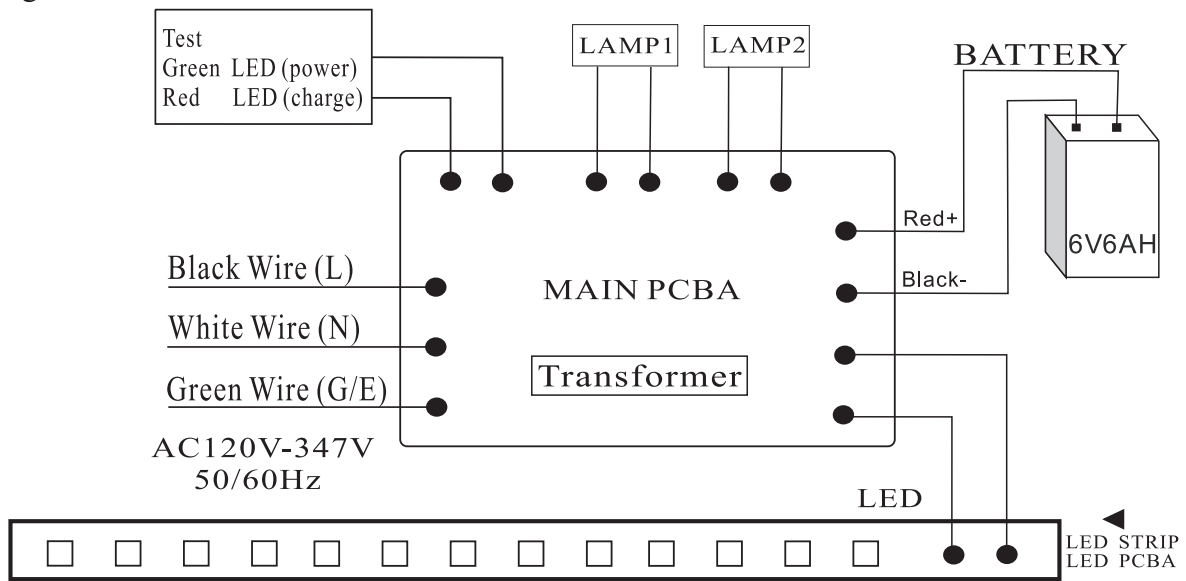

Fig.4
5.1.6. Make proper wiring connections between the AC supply and the unit's transformer: White - Black - Line 120V-347 Volts; Green - Ground; (Fig.4).
Battery may not be connected in reverse polarity. Check connections. Connect Positive lead to Positive battery terminal and Negative lead to Negative battery terminal. The lamps should then turn off and the charge indicator should light when AC power is applied (Fig. 4).